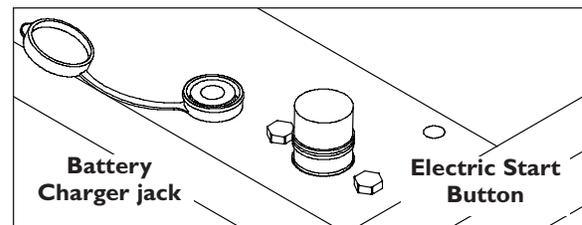

Figure 22 - Connect Battery Charger
- Lift the flap (Figure 22) covering the unit's "Battery Charger" jack. Plug charger into jack. Plug battery charger into a 120 Volt AC wall receptacle.